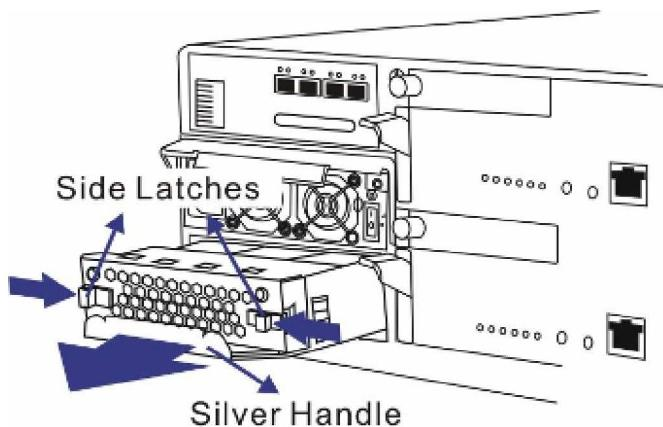

Figure 5-27: Removing the Cooling Module
Step 1. To remove the cooling module, pull both side latches toward the center of the cooling module. Withdraw the cooling module from the subsystem by gently pulling on the silver handle at the bottom of the module. (See *Figure 5-27*)